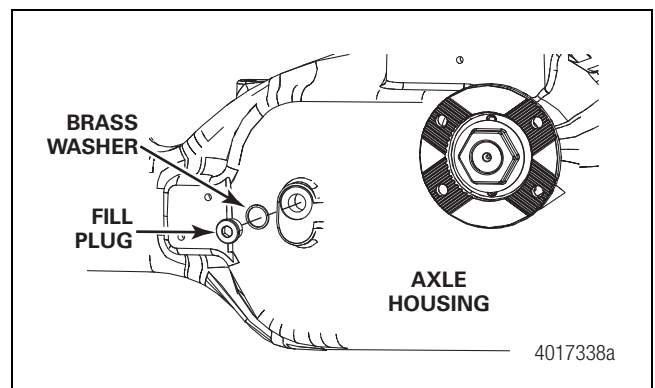

Figure 19.8
5. Remove the fill plug and brass washer from the axle housing. Figure 19.8.
1. Remove the air line from the 90-degree CTI air inlet fitting on the axle housing. Figure 19.8.